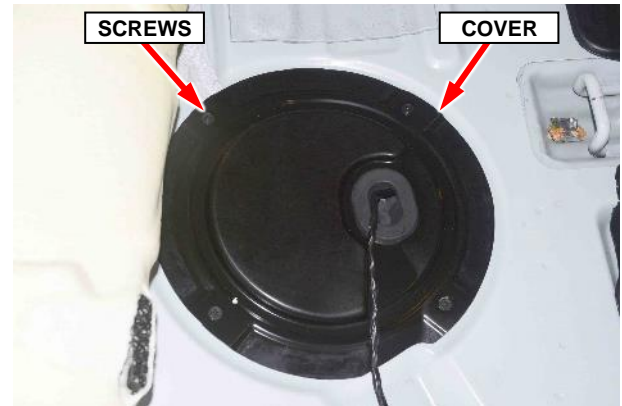

Figure 6 – Fuel Pump Module Access Cover
7. Remove the screws and the fuel pump module access cover (Figure 6).